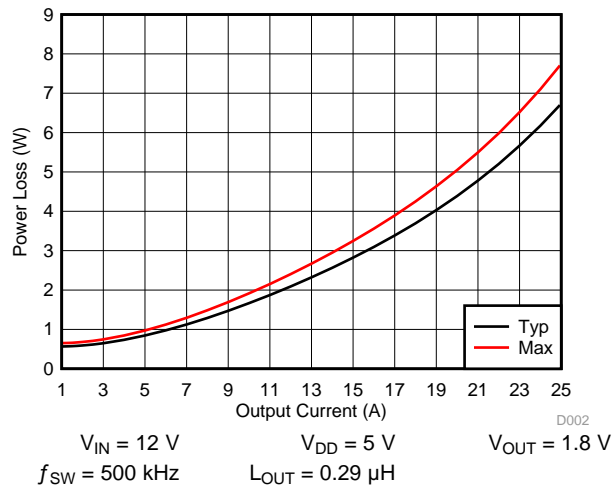

Figure 4. Power Loss vs Output Current
MOSFET centric parameters such as  $R_{DS(ON)}$  and  $Q_{gd}$  are primarily needed by engineers to estimate the loss generated by the devices. In an effort to simplify the design process for engineers, Texas Instruments has provided measured power loss performance curves. Figure 4 plots the power loss of the CSD97395Q4M as a function of load current. This curve is measured by configuring and running the CSD97395Q4M as it would be in the final application (see Figure 14). The measured power loss is the CSD97395Q4M device power loss which consists of both input conversion loss and gate drive loss. Equation 1 is used to generate the power loss curve.
The power loss curve in Figure 4 is measured at the maximum recommended junction temperature of  $T_J = 125^\circ\text{C}$  under isothermal test conditions.
- Typical Power Loss at 15 A = 2.8 W (Figure 4)